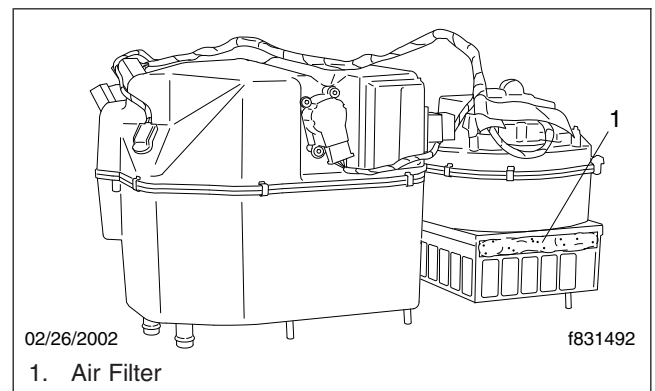

Fig. 5, Sleeper HVAC Assembly
3. Slide the air filter out of the sleeper HVAC assembly. See **Fig. 5**.